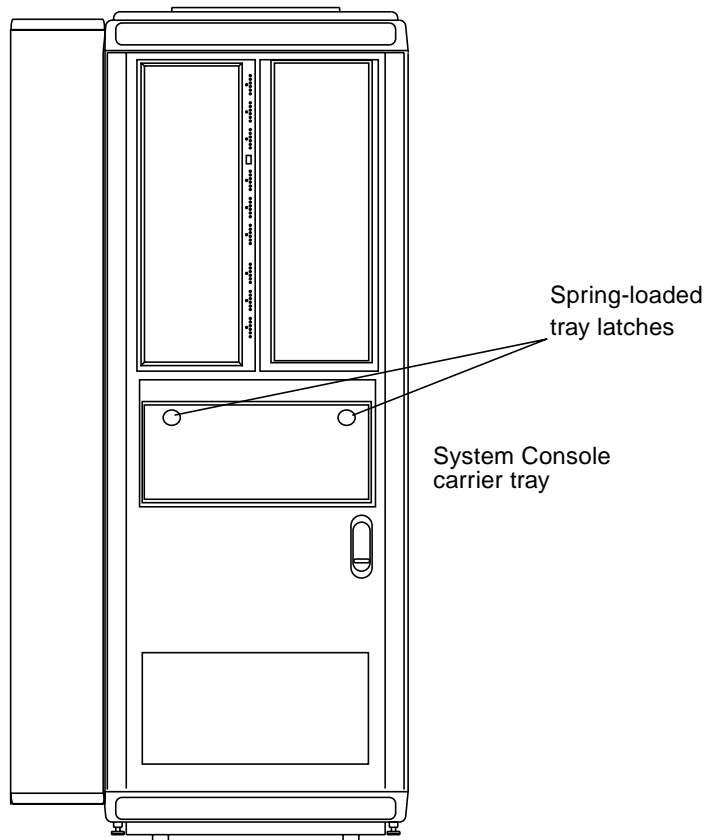

FIGURE 7-10 System Console Tray Location
2. **Turn the spring-loaded knobs on the tray clockwise to release the tray.** See FIGURE 7-10.